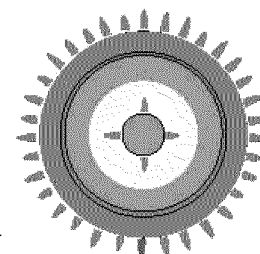

Fig. 4
3. Visually check that both the inner and outer rings are lit -Fig. 4.